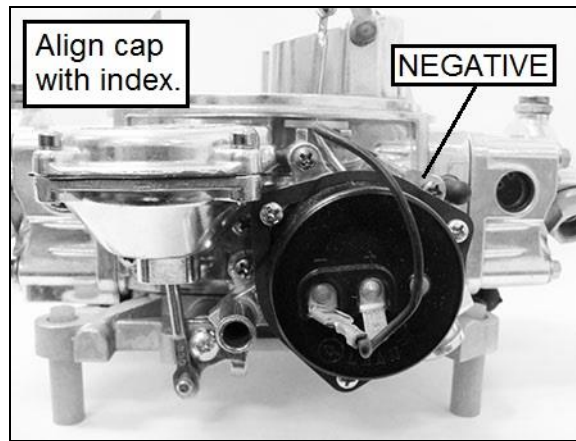

Figure 9
8. Using the three (3) equal length short screws from the kit, fasten the retaining ring and choke cap to the choke housing. Tighten it enough to hold the cap in place, but allow it to be rotated.
9. Rotate the choke cap until the mark on the cap aligns with the index on the choke housing. Tighten the retaining screws so the cap cannot rotate as shown in Figure 9.
10. Use the shortest wire from the kit to connect the bayonet end to the negative choke cap terminal marked (-). Ground the eyelet end to the carburetor. Do this under a screw on the vacuum secondary diaphragm cover or under a screw securing the choke housing to the main body as shown in Figure 9.